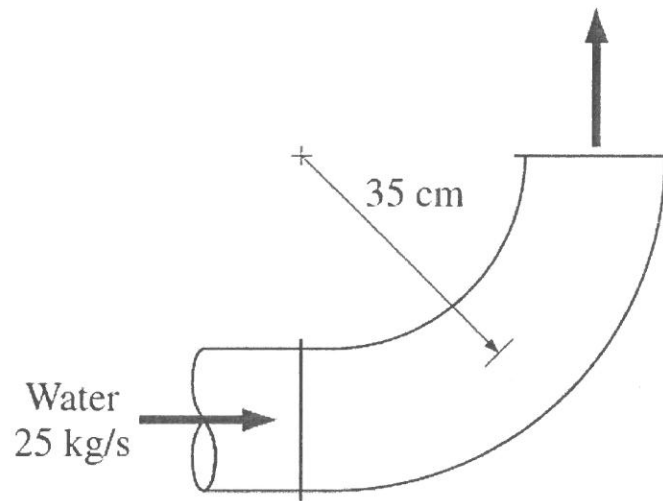

Figure Q3 (b)
- (b) A  $90^\circ$  elbow directs water flow at a rate of  $25 \text{ kg/s}$  in a horizontal pipe upward as shown in Figure Q3 (b). The diameter of the entire elbow is 10 cm. The elbow discharges water into the atmosphere, and thus the pressure at the exit is the local atmospheric pressure. The elevation difference between the centers of the exit and the inlet of the elbow is 35 cm. Neglect the elbow weight and water weight.